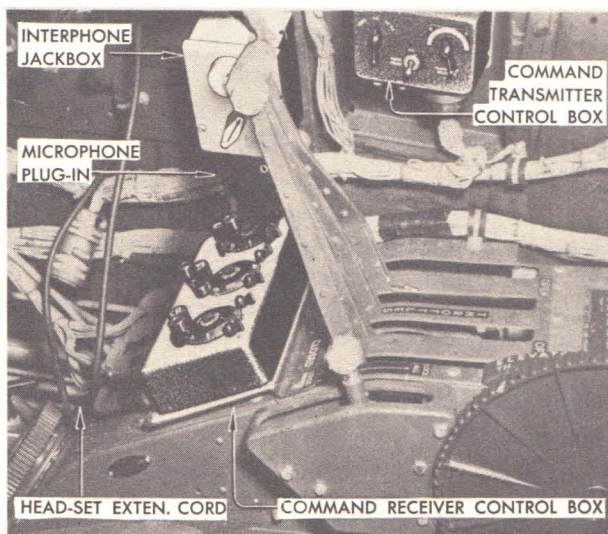

Figure 82 — Pilot's Radio Controls
3. PLUG HEAD SET into head-set disconnect cord jack. (See Figure 82.) (This cord extends from filter switch box.) PLUG THE THROAT MICROPHONE into microphone disconnect cord jack. (See Figure 82.) (Cord must be plugged into the interphone jack-box "MIC" jack as in figure 82.)
4. Set the interphone jack-box (Figure 82) selector switch on the applicable position and turn the "INCREASE OUTPUT" knob fully clockwise.
2. Hold the interphone jack-box selector switch (Figure 82) in "CALL" position, call desired crew member, and release selector switch, allowing it to return to "INTER".
a. Set the three "A-B" switches on the receiver control box (Figure 82) to "A". These switches have no function in this installation on "B" position.
b. Turn "TRANSPower" switch on transmitter control box (Figure 82) "ON".